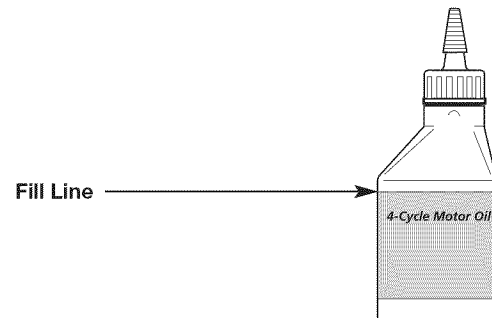

Fig. 21
**NOTE:** Use the empty oil bottle saved from the initial use to measure the correct amount of oil. Fill the bottle to the top of the label to approximate 3.04 fl.oz. (90 ml) of oil (Fig. 21).